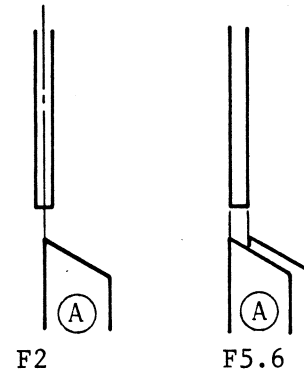

Fig.34
5. At this time top of the arm (A) should be corresponded with the F2 line. (Fig. 34)
6. Next set the aperture ring to F5.6 and check it as well. (Fig. 34)
If adjustment is necessary, do it by referring to 4-2 A and B. (Fig. 34)